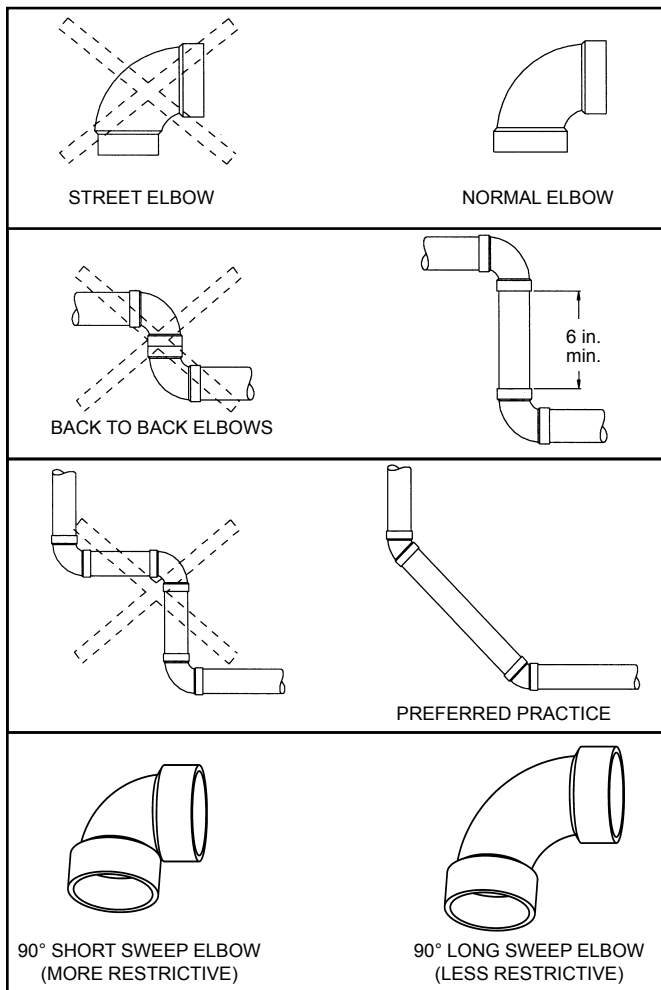

Figure 30.
3. Avoid using 90 degree elbows "back to back" and do not use street elbows. Maintain a minimum 6" straight section between elbows. Closely coupled and short radius elbows reduce the venting capacity. Figure 30 shows examples of vent pipe connections.